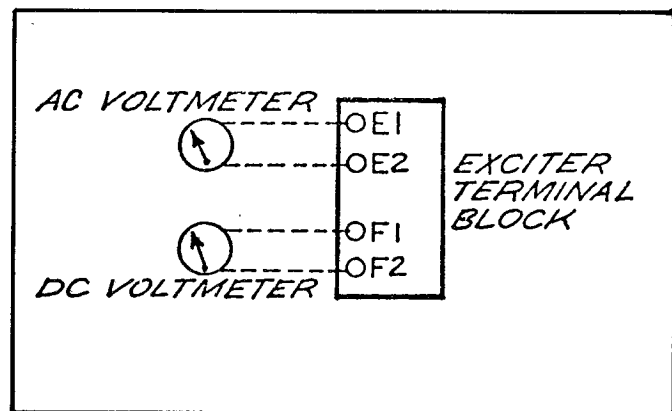

FIGURE 4-8. TEST SCHEMATIC (GENERATOR RUNNING AT NO LOAD)
1. Connect an AC voltmeter to exciter terminals E1 and E2 as shown in Figure 4-8.